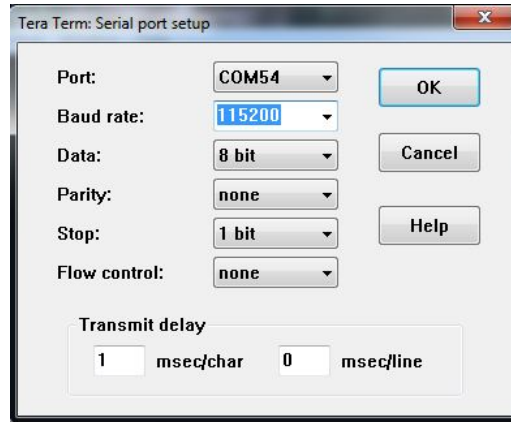

Figure 15. Serial Communication Settings
- Open the Tera Term again for creating a new connection. Now select *Serial* and select the port on which the USB-COM driver of the DK-TM4C123G device is mounted. The port number becomes visible in the *Serial* selection box. As Figure 15 shows, set the *Baud rate* field to "115200", the *Data* field to "8 bit", the *Parity* field to "none", the *Stop* field to "1 bit", and the *Flow control* field to "none".